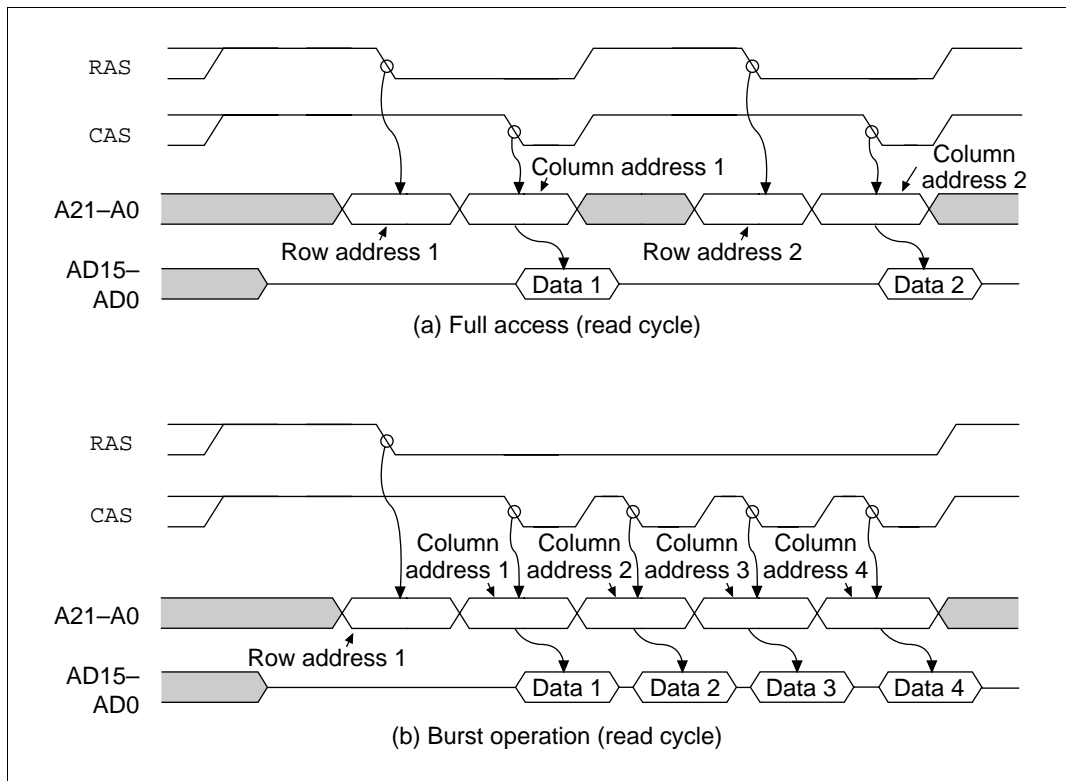

Figure 8.22 Full Access and Burst Operation
In addition to the normal mode of DRAM access, in which row addresses are output at every access and data then accessed (full access), the DRAM also has a high-speed page mode for use when continuously accessing the same row. The high speed page mode enables fast access of data simply by changing the column address after the row address is output (burst mode). Select between full access and burst operation by setting the burst enable bit (BE) in the DCR. When the BE bit is set to 1, burst operation is performed when the row address matches the previous DRAM access row address. Figure 8.22 shows the comparison of full access and burst operation.